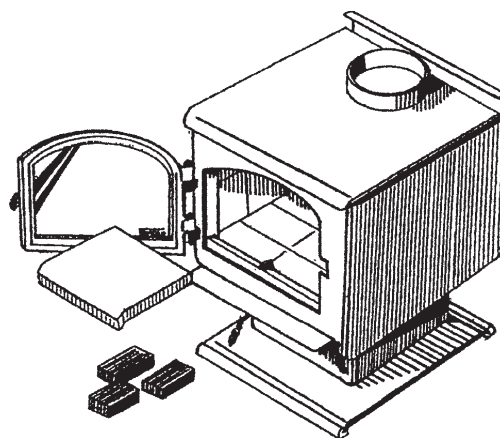

FIGURE 1
3. Remove the firebrick from the sides of the stove. **See Figure 1.**